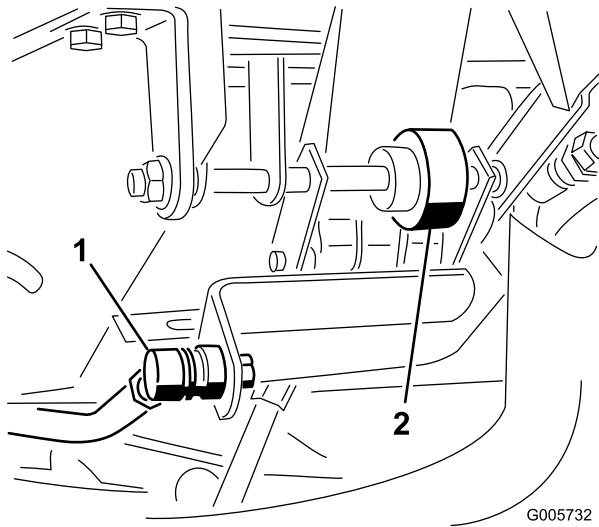

Figure 69
4. Adjust control rod end (Figure 69) until there is a .12" gap between top of traction pedal stop screw and pedal. Tighten lock nuts.
1. Loosen two nuts securing traction pedal shaft on right side of pedal (Figure 69).